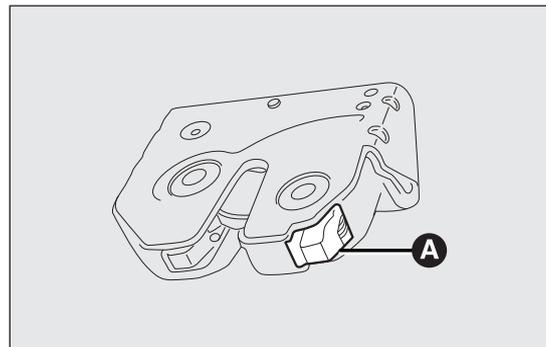

fig. 54
- to unlock the tailgate mechanically, working from the inside of the boot, use lever A fig. 54.